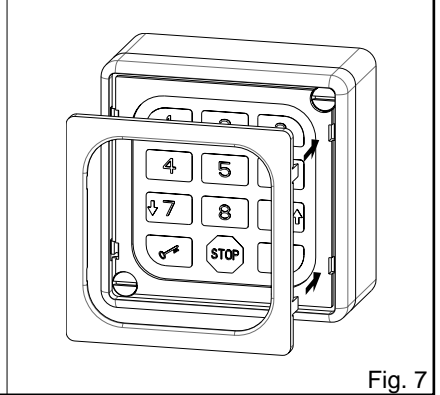

Fig. 7
- Finally simply push the screw cover into place (fig. 7).